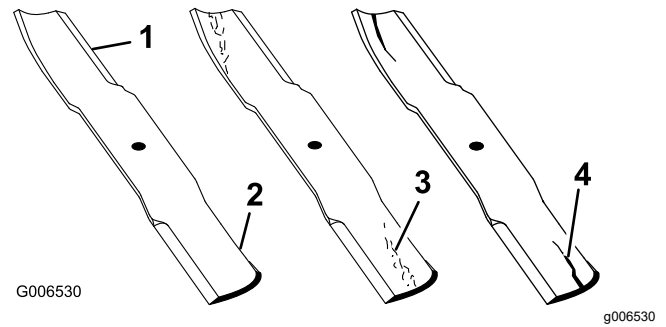

Figure 65
1. Inspect the cutting edges (Figure 65).
4. If you notice any cracks, wear, or a slot forming in this area, immediately install a new blade (Figure 65).